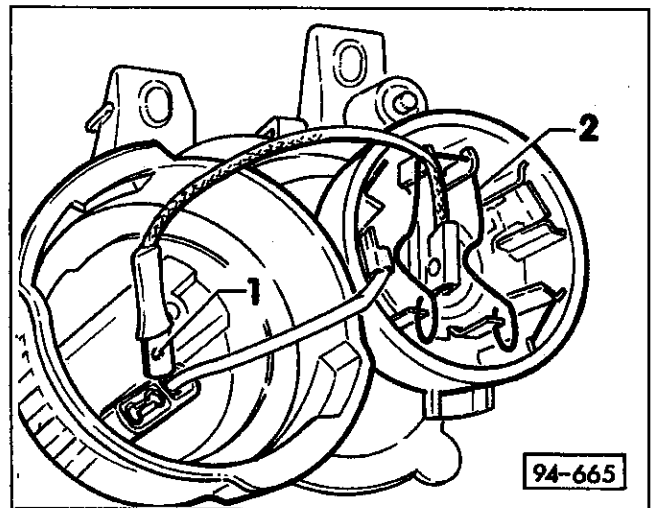

Fig. 7. Fog light bulb connector (1) and spring clip (2).
4. Unclip bulb spring retaining clips and swing clips out. See Fig. 7.